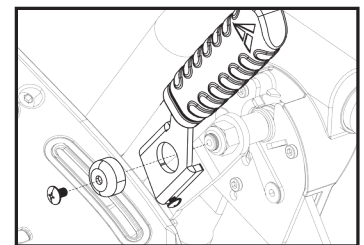

Figure 2
- **Figure 2.** Place the bracket of the Traction Handle over the top of the Roller Hinge Bolt, making sure that the bolt fits inside the hole in the bracket. The Traction Handle should point away from the table bed.